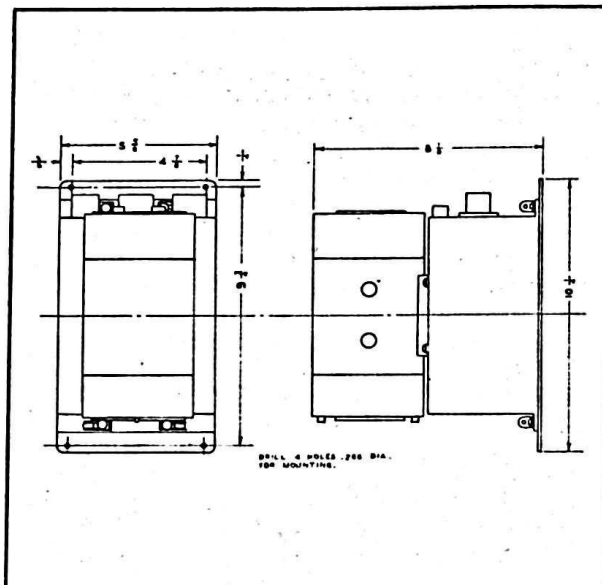

Figure 3—Dynamotor Unit PE-180 with Mounting FT-443-A, Mounting Dimensions
b. DYNAMOTOR UNIT PE-180.—Choose a location for the dynamotor so the armature shaft will be in a horizontal plane, and Cord CD-919 will reach from it to the transmitter unit. Using figure 3 as a guide, install Mounting FT-443-A. Place the dynamotor unit on the mounting and secure it by means of the snapslide fasteners. Safety-wire the fasteners.